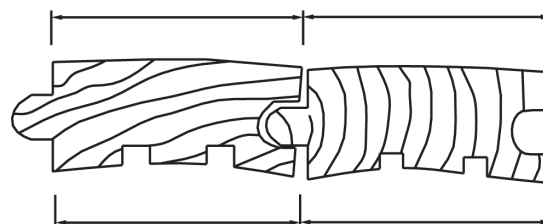

Figure 1-12 Crowning
- a. Floor: Find 28 Btu/hr/ft² on the vertical axis of Figure 1-12, and move to the right until you intersect the line labeled "Floor." From this intersection, move down to the horizontal axis and read the ΔT between the room temperature and the floor surface temperature. The result is 14.7°F.
- b. Wall: Find 36 Btu/hr/ft² on the vertical axis of Figure 1-12 and move to the right until you intersect the line labeled "Wall." From this intersection, move down to the horizontal axis and read the ΔT between the room temperature and the floor surface temperature. The result is 25.7°F.